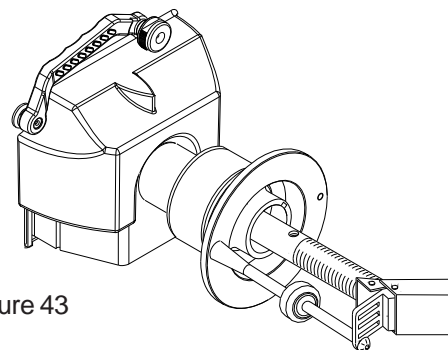

Figure 43
4. Display will then change to “tO” “CAL” “SLG”. Screw the calibration weight onto the outside of the flange. Touch the tip of the width gauge to the tip of the calibration slug and hold it for one second or press the “F” button (Figure 43). The display will change to “SAP” “E-2” “FIN” for one second followed by a tone indicating a successful calibration. Unit will then go into an idle state.